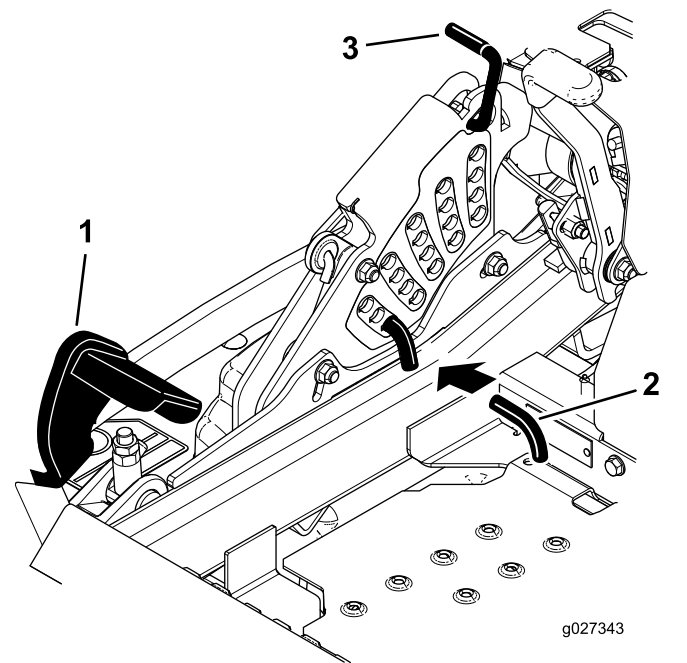

Figure 92
5. Push the deck lift pedal all the way forward and the deck will latch at the 14 cm (5-1/2 inch) transport position (Figure 92).